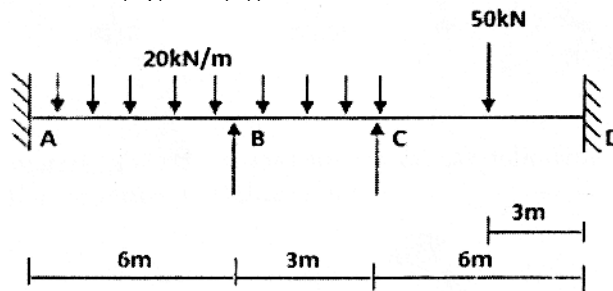

Fig. 16 (a)
16. (a) Analyse the continuous beam *ABCD* by slope deflection method and find the end moments. Support *B* sinks by 10 mm. $E = 2 \times 10^5 \text{ N/mm}^2$ and $I = 16 \times 10^7 \text{ mm}^4$. (fig. 16 (a)).